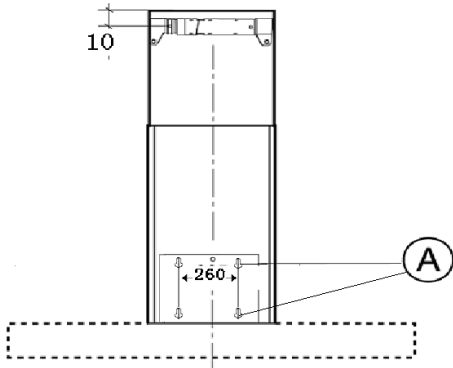
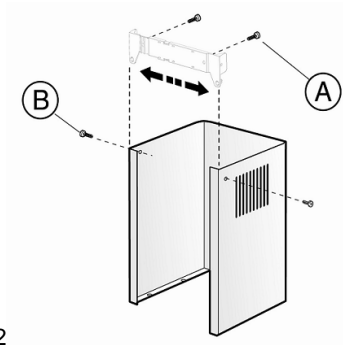

Fig 1
Fig 2
1. Drill 4 holes in the wall respecting the distances indicated in Fig.1.
3. Adjust the width of the chimney mounting bracket (Fig.2) and fix the chimney mounting bracket to the wall in such a way that it is in line with your hood and respecting the distance from the ceiling indicated in Fig.1.
5. Secure the upper chimney section to the chimney mounting bracket by use of the screws (B) as indicated in Fig 2.